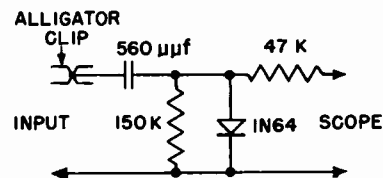

Figure 7
2. Connect vertical input leads of oscilloscope to detector network shown in fig. 7. Clip the alligator clip of the detector input over the insulated wire between pin 2 of the 6BN6 and L303 so that there is no direct electrical connection between the input to the detector network and the circuit under test. The ground connection of the detector circuit, however, should be connected to the chassis.